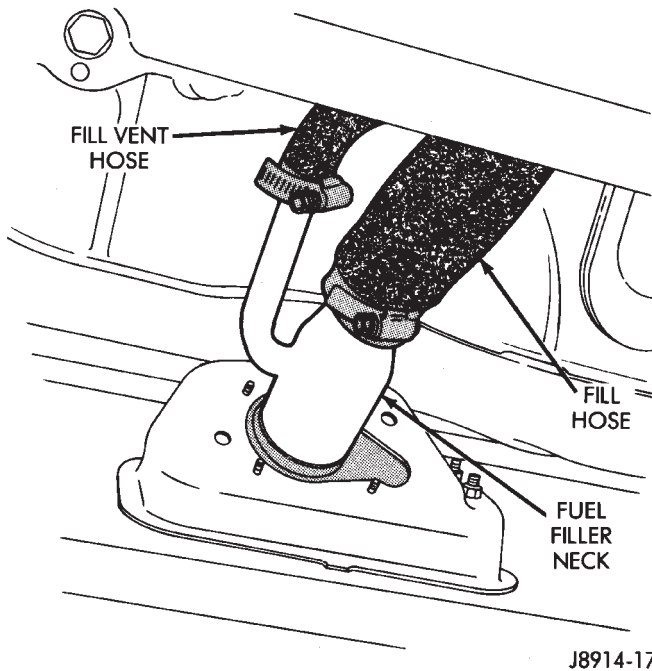

Fig. 1 Filler Neck Hoses—XJ Models
- (1) Disconnect negative battery cable.
- (2) Remove the fuel filler cap. Using an approved portable gasoline siphon/storage tank, drain fuel tank.
- (3) Raise and support vehicle.
- (4) Disconnect fuel fill hose and fill vent hose from filler neck (Fig. 1).